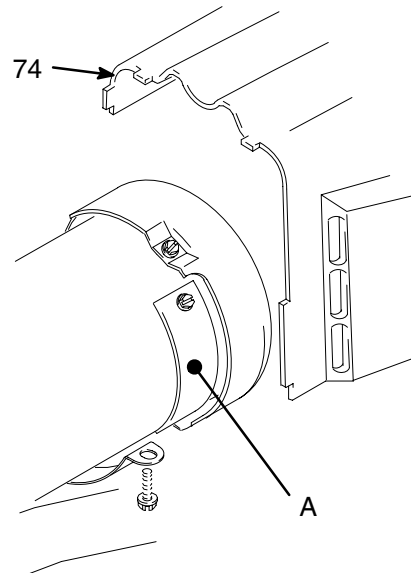

Fig. 4
4. Fig. 4. Remove motor shroud (74) and inspection covers (A).
3. Fig. 4. Remove motor shroud (74) and two inspection covers (A).